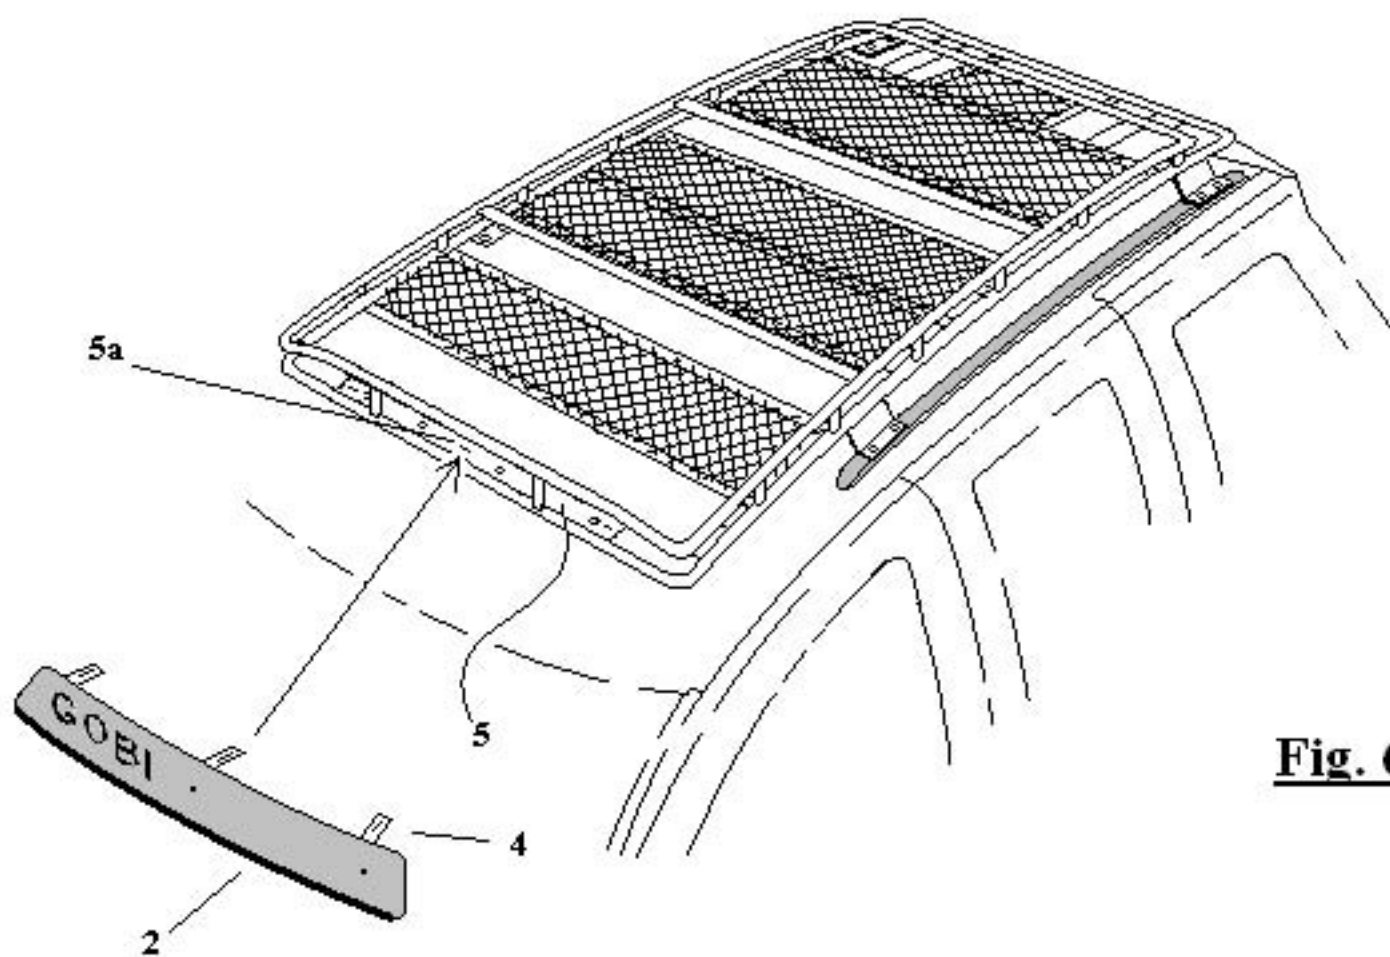
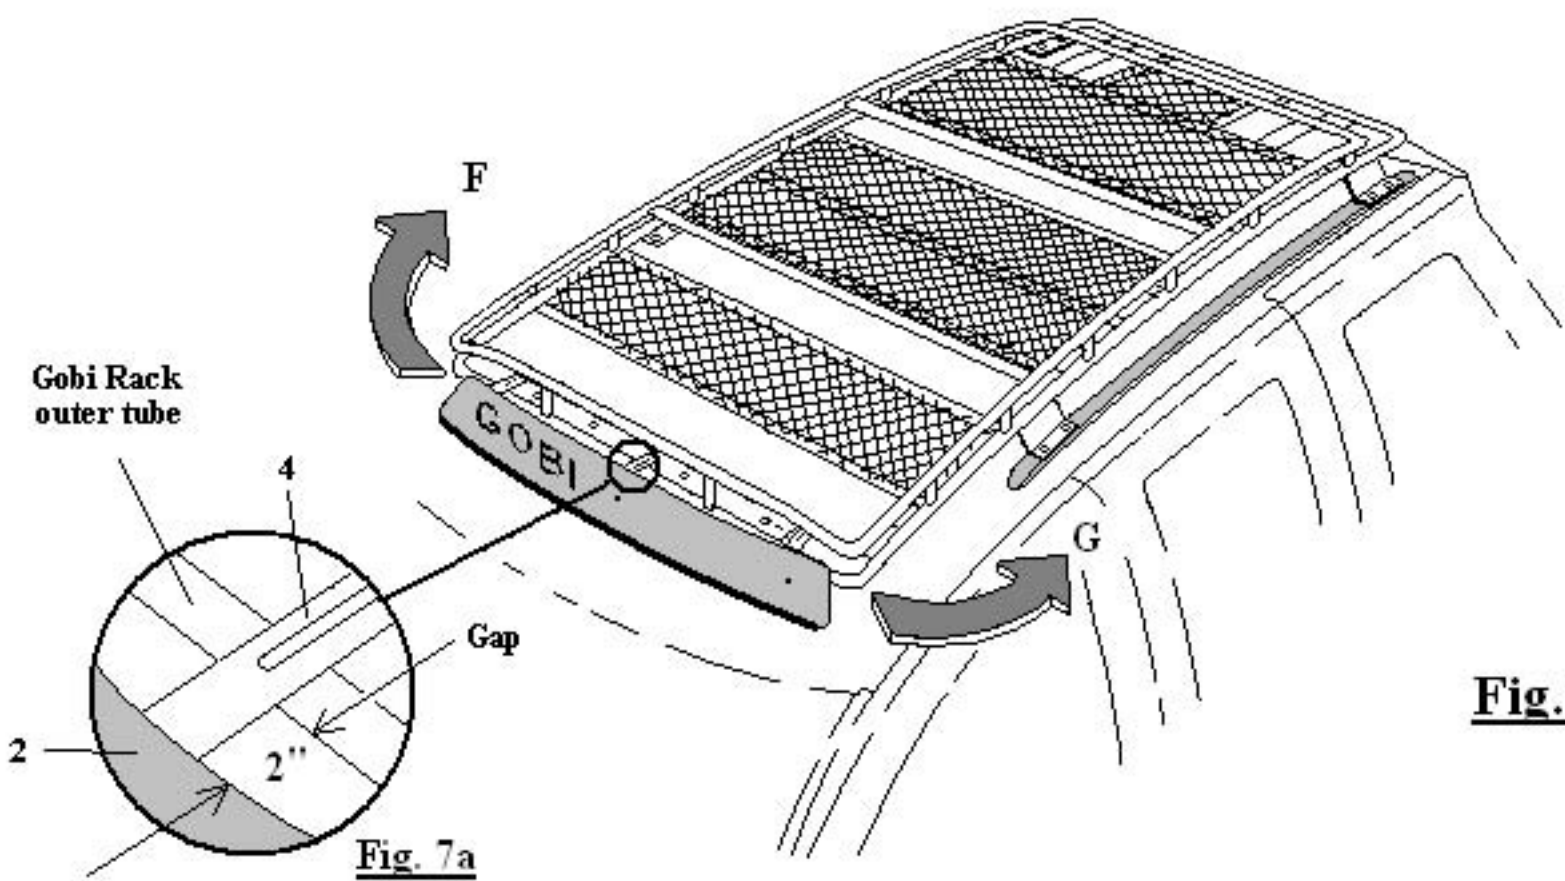

Fig. 6
Fig. 7
- 4- Refer to page 4 Fig. 4 after all support brackets "Fa" and "F" have been installed place Gobi roof rack #11 on top of all four support brackets as shown in Fig. 6 page 5. Refer back to page 4 Fig. 4 place black rubber pad #10 between roof rack and support brackets then install 3/8" bolts, washers, lock washers and nuts located in Bag # 4 of your hardware kit in place as shown. Continue the same procedure to all support brackets to secure roof rack to vehicle roof top. Finger tighten only at this time.
- 6- Refer to Fig. 6 page 5 #2 farring, the farring comes pre-assembled with farring brackets #4 attached. The position of each attached fairing bracket may not be fixed at the proper height for your particular roof line. Adjustments may have to be made in order for the fairing to form correctly to your vehicle's roof line. Begin by attaching the fairing's center bracket to the middle slot #5a of the Gobi roof rack light bar #5 shown on page 5 Fig. 6 use the 1/4" bolts, washers and nuts supplied in bag #2. Provide approximately a 2" gap between the fairing and the Gobi rack outer tube as shown on page 5 Fig. 7 a, tighten down the center nut and bolt at this time. Proceed to either the right or left hand side and pull the fairing in the direction of the arrows on page 5 Fig. 7 letters "F" and "G" while pushing down on the fairing towards the roof top at the same time. Pull each side until the fairing either makes contact with the Gobi roof rack or comes in close proximity. Align fairing brackets #4 to the Gobi light bar fairing slots at the ends of the Gobi light bar #5 and insert the 1/4" bolt and washer through the fairing bracket #4 then through the Gobi light bar slot and secure the fairing in place with the 1/4" washer and nut. Proceed to the opposite side and continue attaching the fairing in the same manner. Be sure that the fairing through out it's length is in contact with the roof top as snug as possible, fairing brackets may need to be adjusted either up or down and in some cases you may bend the fairing bracket to accommodate the final result. Once the fairing is in the proper position tighten all fairing bracket screws firmly. Roof rack installation is complete.